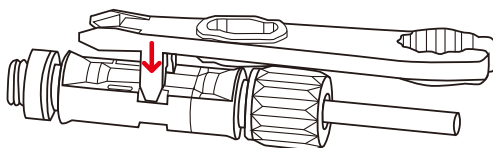

Figure 8.1 Removing DC input connector
Step 1: Disconnect all cables from the inverter, including communications cables, DC input Power cables, AC output power cables, and PGND cables, as shown in Figure 8.1.